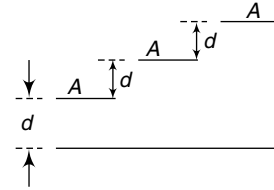

Fig. 1.43 Three plates parallel to a common plate
1.35 Three plates are held parallel to a common plate (Fig. 1.43). A is the area in m^2 for each of the three parallel plates, while d metre is the distance between each pair of plates. What is the equivalent capacitance?